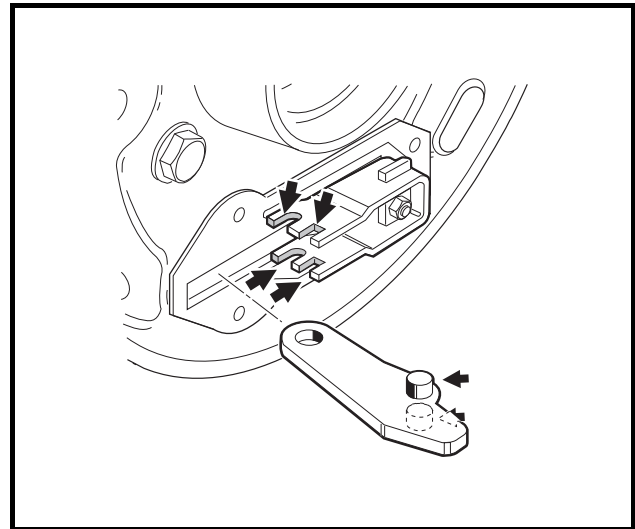

Figure 6-22 Lubricate Actuator
6. Use a small brush to carefully apply a light coat of white lithium NLGI #2 grease (Dow Corning BR2-Plus or equivalent) to the brake actuator assembly as shown (**Figure 6-22, Page 6-10**). See preceding **WARNING**.